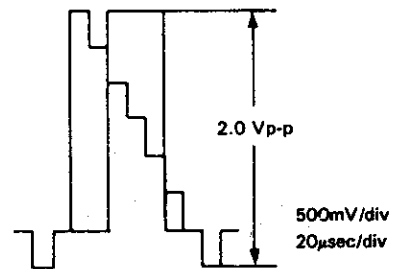

Figure 2-7.
2. Feed the colour bar signal (stair-case waveform) to the video input terminal. Observe the voltage of pin ②⑤ of connector CD on the oscilloscope screen, adjust R203 (EE level control) to obtain the value indicated in Figure 2-7.